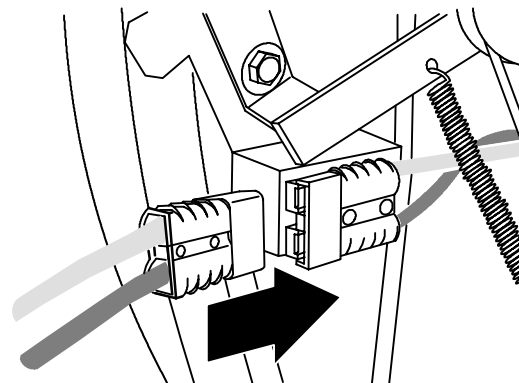

FIG. 54
- Connect the charger's DC cord to the machine's battery receptacle at the rear of the machine (Figure 54).